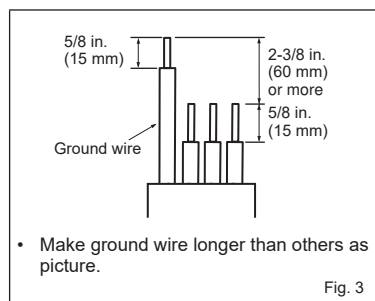

Fig. 3
- 7) Process the end of ground wire (Fig. 3). Connect it to the ground terminal of electrical parts box.
- 8) Process the end of indoor/outdoor unit connecting wire (A) (Fig. 3). Attach it to the terminal block. Be careful not to make mis-wiring. Attach the wire to the terminal block securely so that its core cannot be seen, and no external force affects the connecting section of the terminal block.
- 2) Remove all burrs from the cut section of the pipe, ensuring that precautions are taken to avoid getting metal shavings into the piping. (Fig. 3)